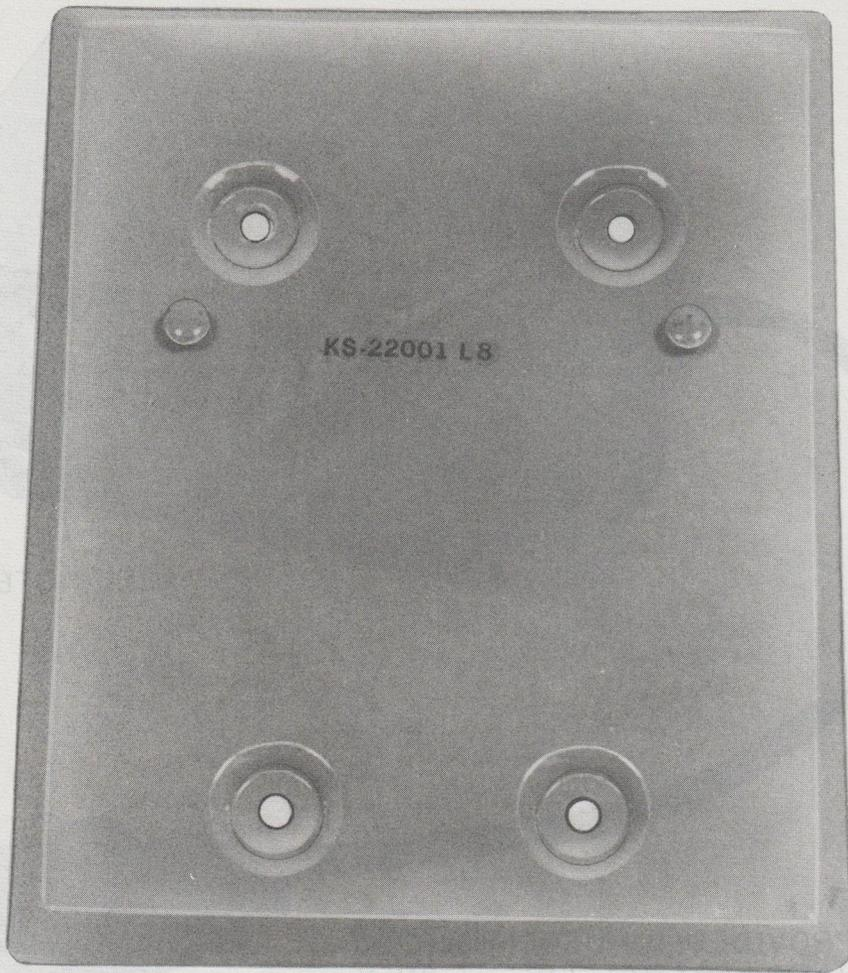

Fig. 10—KS-22001, List 8 Portable Mounting Plate
- The KS-22001L8 (Fig. 10) is a portable mounting plate used for applications where mounting the chime directly is not desirable.